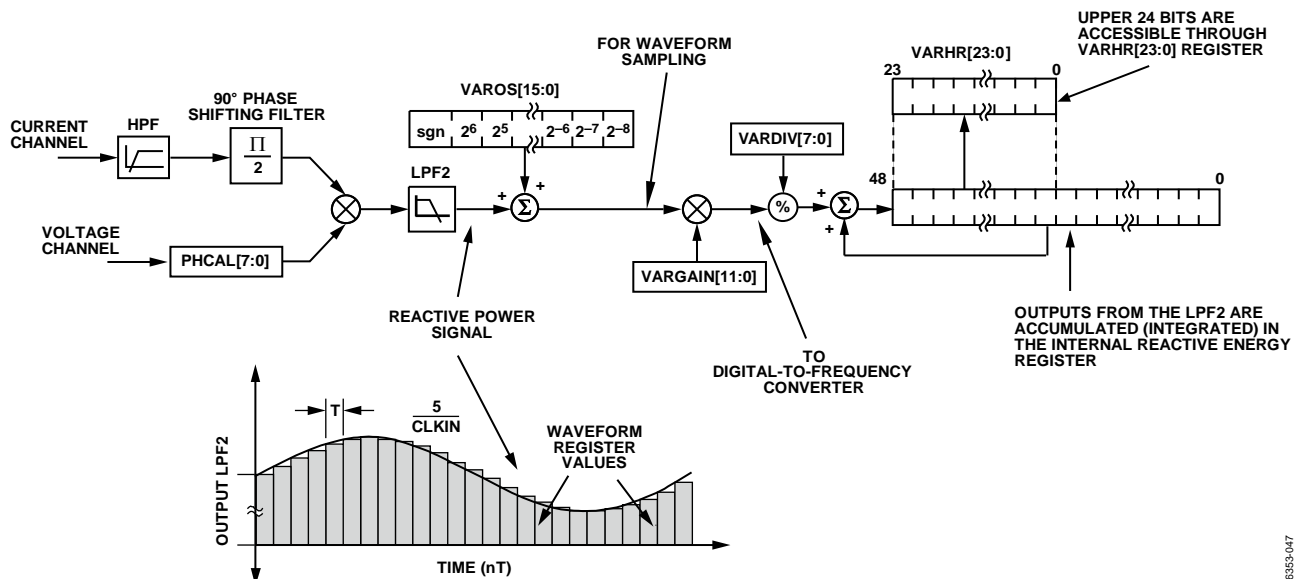

Figure 72. Reactive Energy Calculation
The instantaneous reactive power signal $q(t)$ is generated by multiplying the voltage and current channels. In this case, the phase of the current channel is shifted by 90°. The dc component of the instantaneous reactive power signal is then extracted by a low-pass filter to obtain the reactive power information (see Figure 72).
Figure 72 shows the signal processing chain for the ADE7169/ADE7569 reactive power calculation. As explained in the Reactive Power Calculation (ADE7169/ADE7569) section, the reactive power is calculated by applying a low-pass filter to the instantaneous reactive power signal. Note that, when reading the waveform samples from the output of LPF2, the gain of the reactive energy can be adjusted by using the multiplier and by writing a twos complement, 12-bit word to the var gain register (VARGAIN[11:0], Address 0x1E). Equation 25 shows how the gain adjustment is related to the contents of the var gain register.
The ADE7169/ADE7569 also incorporate a reactive power offset register (VAROS[15:0], Address 0x21). This signed, twos complement, 16-bit register can be used to remove offsets in the reactive power calculation (see Figure 72). An offset can exist in the reactive power calculation due to crosstalk between channels on the PCB or in the IC itself. The offset calibration allows the contents of the reactive power register to be maintained at 0 when no power is being consumed.
The discrete time sample period (T) for the accumulation register in the ADE7169/ADE7569 is $1.22 \mu\text{s}$ ($5/\text{MCLK}$). As well as calculating the energy, this integration removes any sinusoidal components that may be in the active power signal. Figure 72 shows this discrete time integration or accumulation. The reactive power signal in the waveform register is continuously added to the internal reactive energy register.
As shown in Figure 72, the reactive power signal is accumulated in an internal 49-bit, signed register. The reactive power signal can be read from the waveform register by setting the WAVMODE register (Address 0x0D) and setting the WFSM bit (Bit 5) in the Interrupt Enable 3 SFR (MIRQENH, Address 0xDB). Like the current and voltage channel waveform sampling modes, the waveform data is available at sample rates of 25.6 kSPS, 12.8 kSPS, 6.4 kSPS, and 3.2 kSPS.